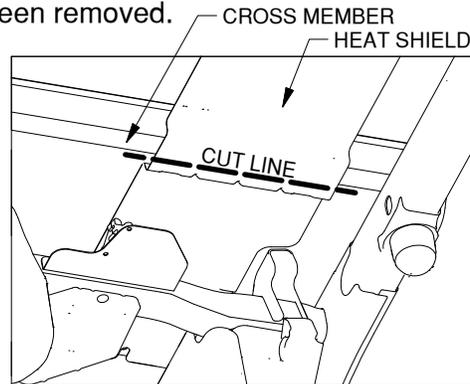

Figure A2: View looking up at bottom of bed above axle.
- 6. Remove and discard the heat shield above the rear axle.** A section of the exhaust heat shield will need to be removed. Locate the bed cross member that is directly over the axle, see Figure A2. The section of heat shield in front of this cross member will have to be removed. Cut along the cross member with tin snips or another suitable tool. Make sure that none of the heat shield is protruding past the front of the cross member. Remove the T25 Torx screws holding the front of the heat shield to the truck. Discard the forward section of the heat shield when it has been removed.